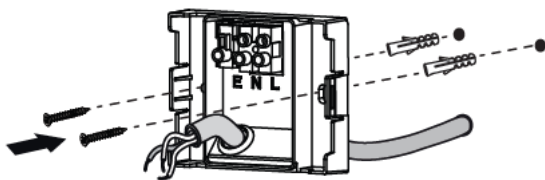

Fig.2
- Feed the mains cable through the grommet entry point on the rear of the mounting bracket. (see Fig.2)